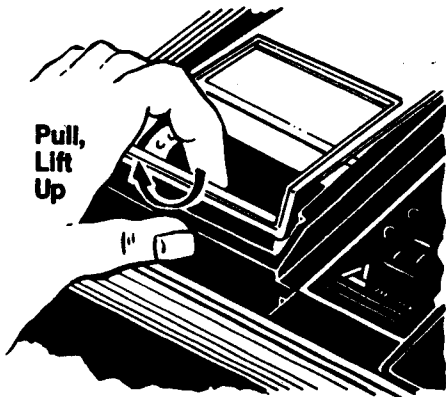

Fig. 3
- a) Remove top cover—pull bottom ledge of frame toward you and lift. See fig. 3 or 4.
2. Remove top cover. See fig. 3.